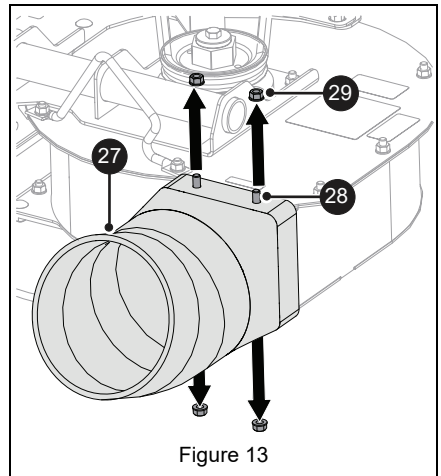

Figure 13
1. Install hose adapter (item 27) and secure with four 5/16" x 1" round head square neck bolts (item 28) and four 5/16" top locking flange nuts (item 29). Bolts are installed from the inside with the nuts on the outside. See Figure 13.